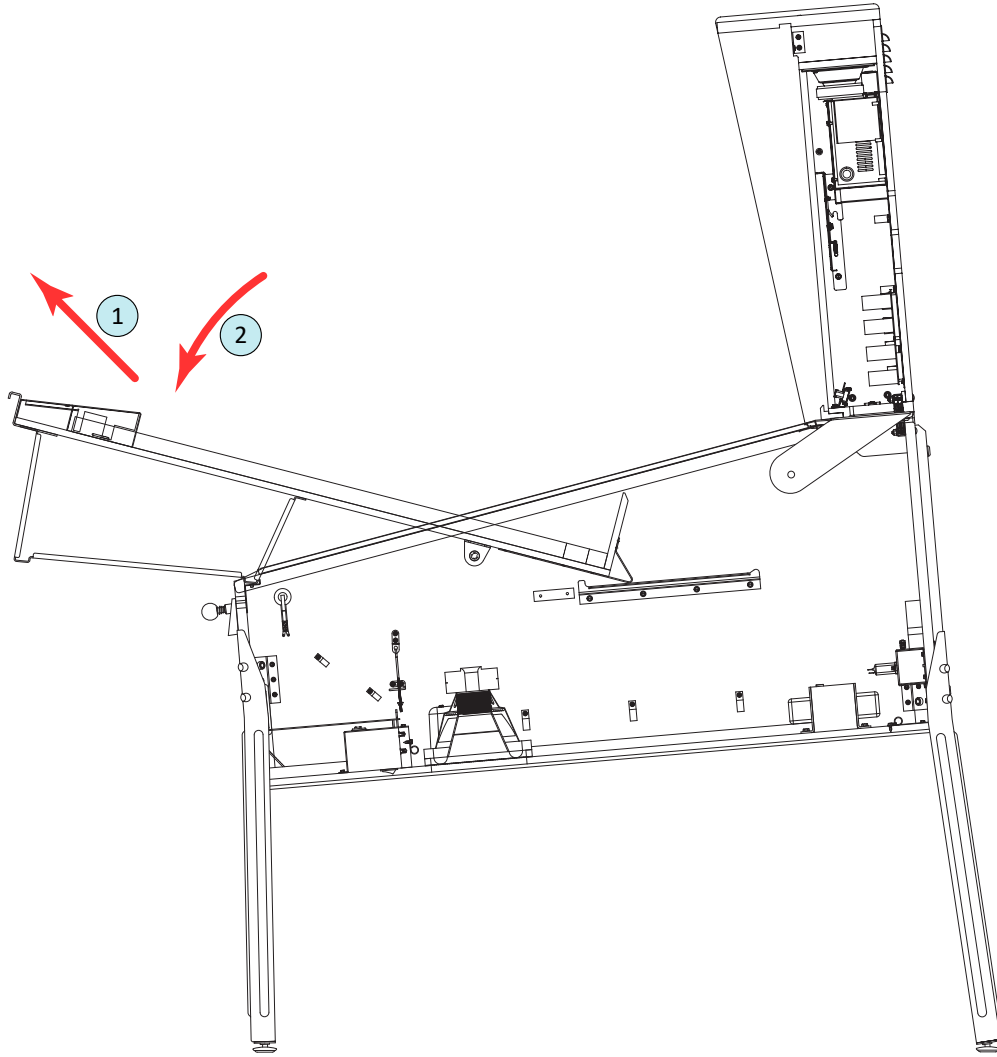

Figure A13. Moving the playfield to position 3.
**14)** Move the playfield from position 2 to 3 (figure A13). Pull it upward and outward until the second pair of feet in the support brackets reach the top of the lockdown bar receiver; again, lower the playfield, resting the feet in the channel.